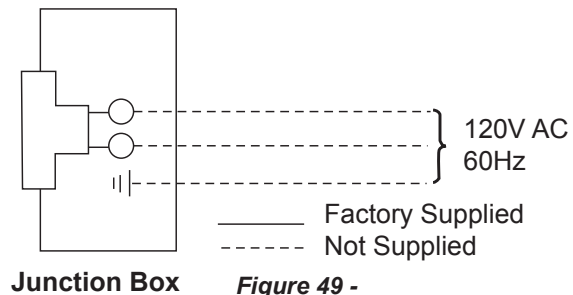

Figure 49 - Junction Box Wiring Diagram
3. The junction box cover has a factory installed "romex" style strain relief connector. After connecting the wires, route the wire leads through this connector. Refer to the wiring diagram in *Figure 49*.